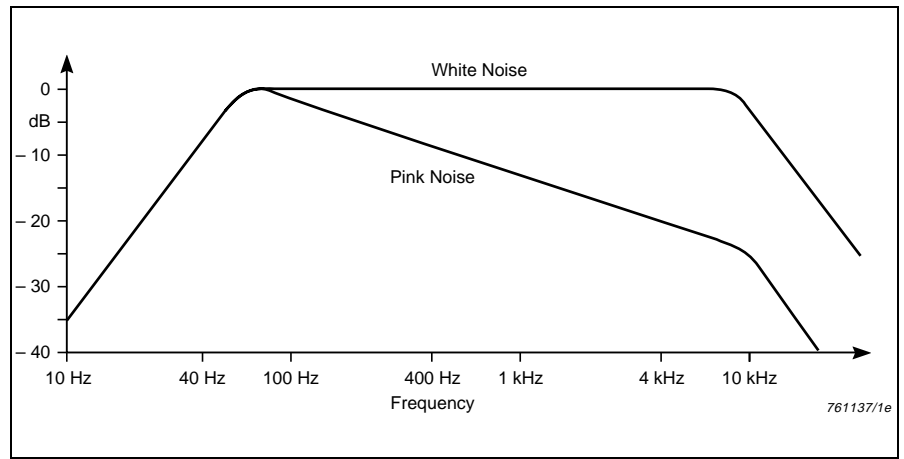
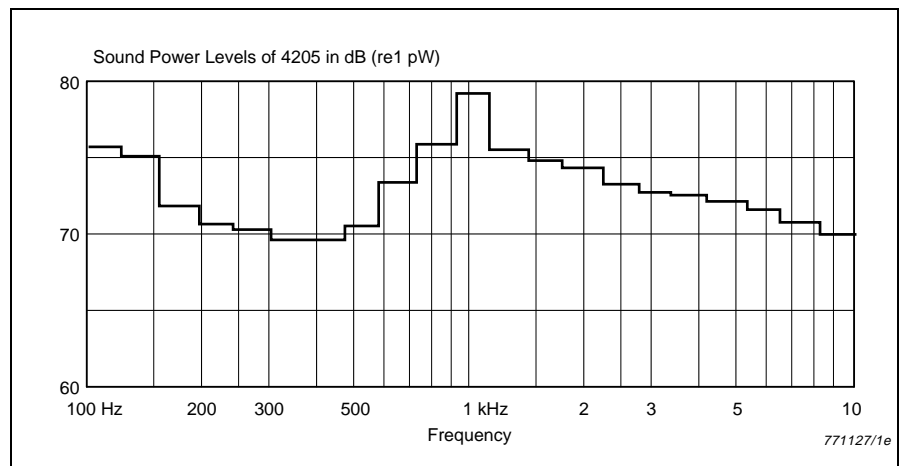

Fig.3 White and pink noise outputs from the 4205
Fig.4 Typical sound power spectrum for Type 4205 operating in a wide band mode measured in 1/3-octave bands
Graphs of the white noise and pink noise from Type 4205's generator against frequency are shown in Fig. 3. A typical sound power spectrum for Type 4205 operating in the wide band mode measured in third octave bands, is shown in Fig. 4.
Wide band noise in the frequency range 100 Hz to 10 kHz (see Fig. 4)
**Signal:** Pink noise in the freq. range 100 Hz to 10 kHz (Fig. 3)
**Freq. Range:** 50 Hz to 10 kHz (Fig. 3)